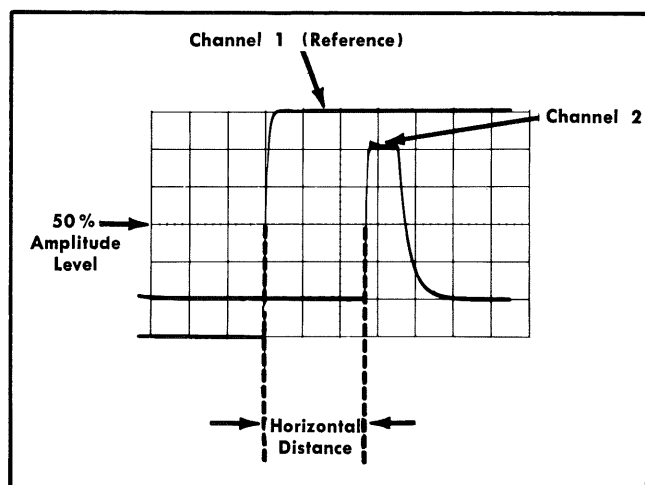

Fig. 2-3. Measuring time delay between pulses.
10. Measure the exact horizontal distance between the reference waveform and the Channel 2 waveform (see Fig. 2-3).
For example, assume that the time/division switch is set to 5 microseconds, the $5\times$ magnifier is on, and the horizontal distance between waveforms is 2.7 divisions (see Fig. 2-3). Using the formula: